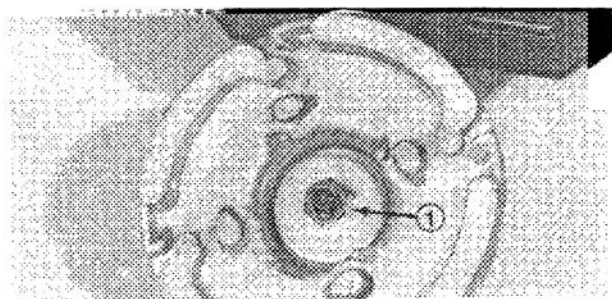

Figure 20
4. Insert cotter pin through hole in shaft and wrap ends around shaft (Fig. 20).